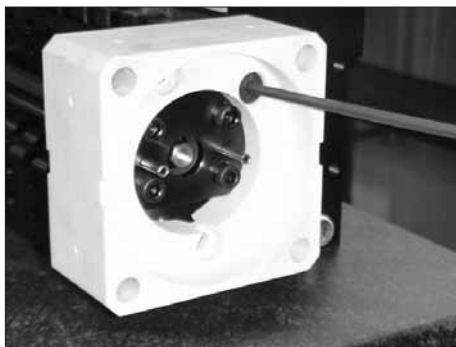

Figure 7-48 Removing the drive adapter
2. See Figure 7-48. Using an M4 hex wrench, remove the drive adapter (three shoulder bolts).